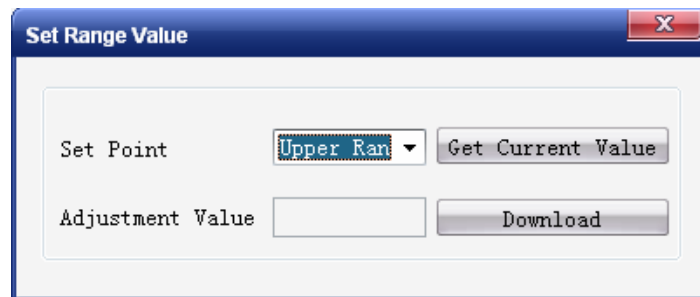

Figure 5-6 Calibration of rangeupper limit
- ② Add practical pressure of the up limit of the range on the Transmitter, select the calibration point of “up-limit of range”, Add standard pressure of the range upper limit to transmitter, when the pressure is stable, select the calibration point “upper range”,as Figure 5-6 shows. And then click the button “get current value”, the calibration data is displayed in “adjustment value”. Complete the calibration by clicking the button “download”. Now the practical pressure value is the pressure value of range upper limit, and the current output is 4mA.